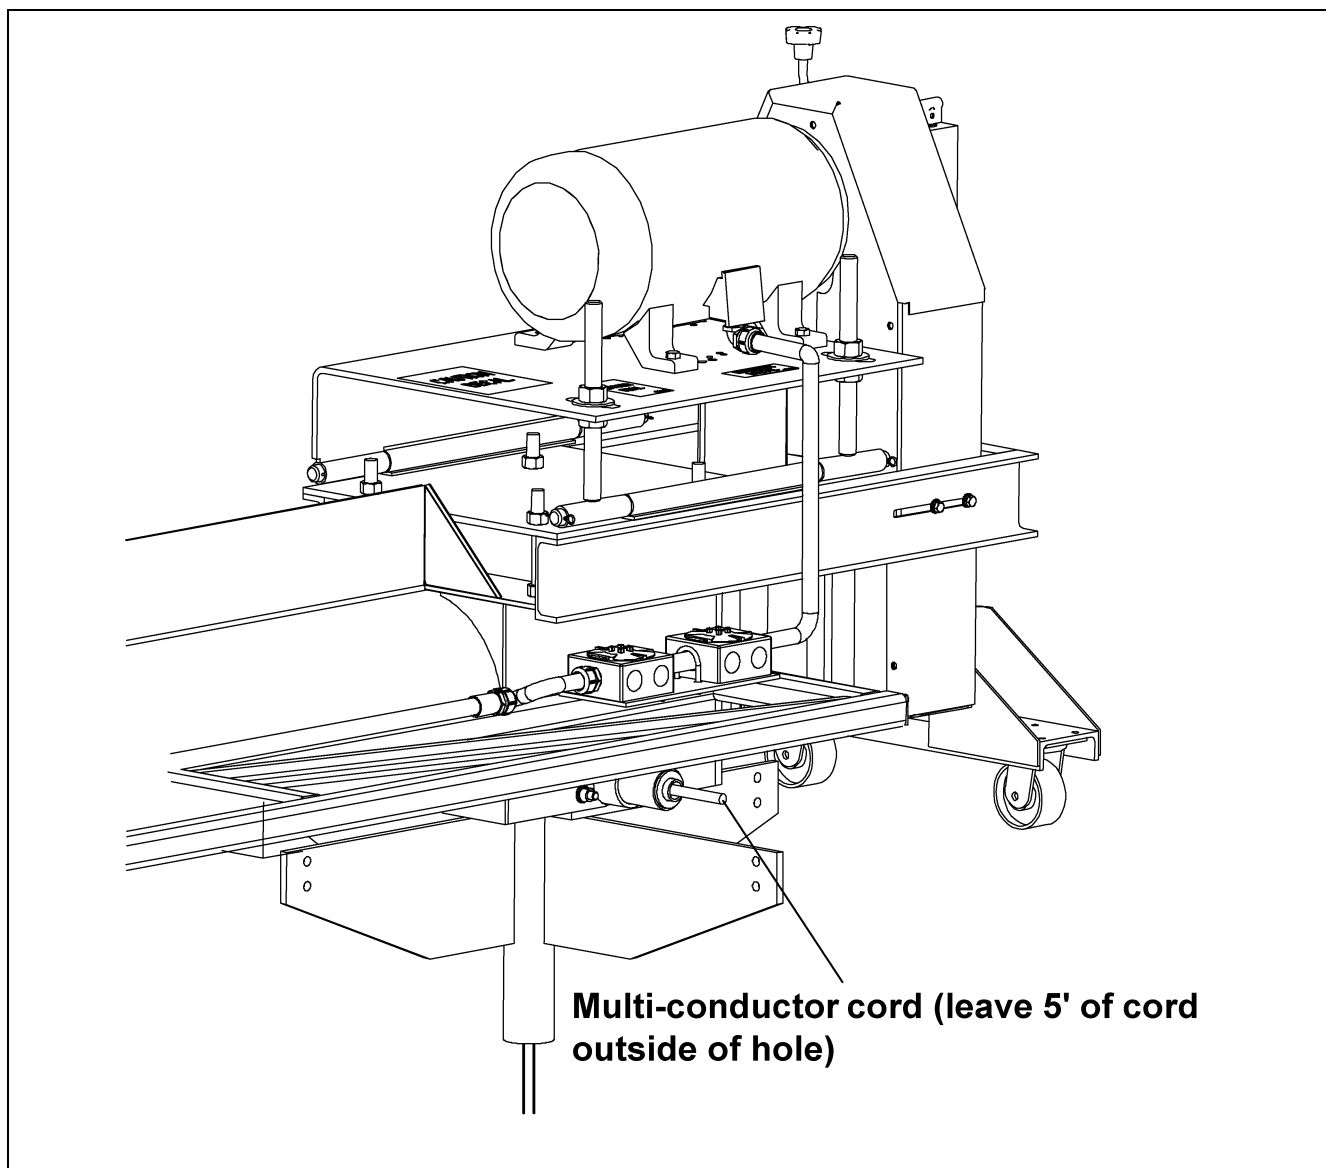

Figure 5AR
2. Feed the multi-conductor cord through the hole in the back of the sweep head section leaving five feet (5') of cord outside the hole. (See Figure 5AR.)
3. Feed the power cord through the pivot tube. (See Figure 5AS on Page 57.)